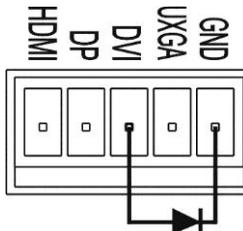

Figure 7: Example of a Remote Input Indicator LED Wiring for the DVI Input
3. Connect pin 3 from the terminal block to the anode of the remote DVI indicator LED, (see the example in Figure 7).